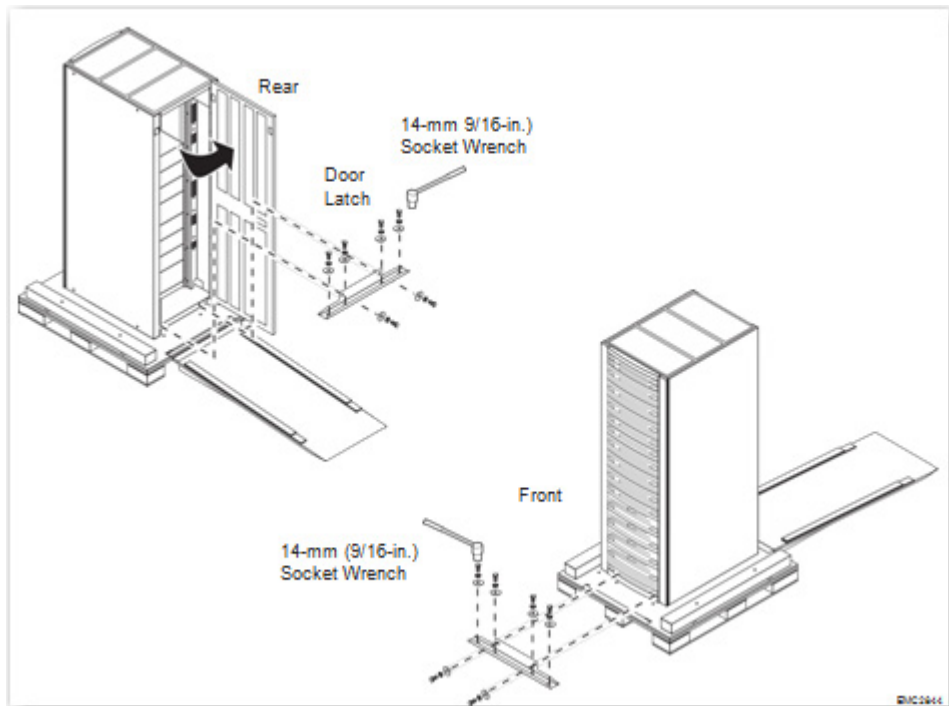

Figure 15 Removing the rack shipping brackets
1. At the rear of the cabinet, open the door and remove the rear shipping bracket (Figure 15 on page 41).